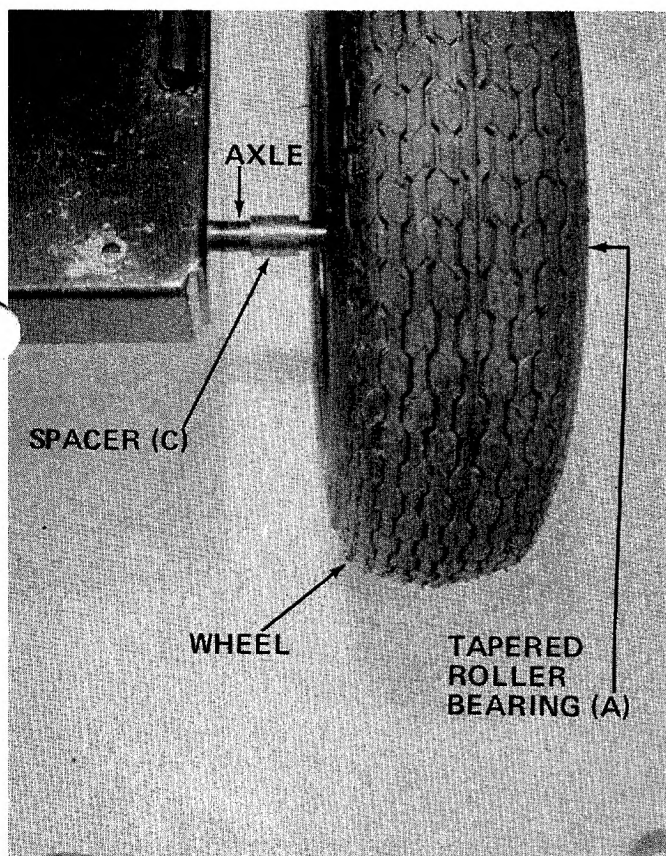

FIGURE 3
2. Place one spacer (C) on axle, next one wheel, and tapered roller bearing (A). See figure 3.